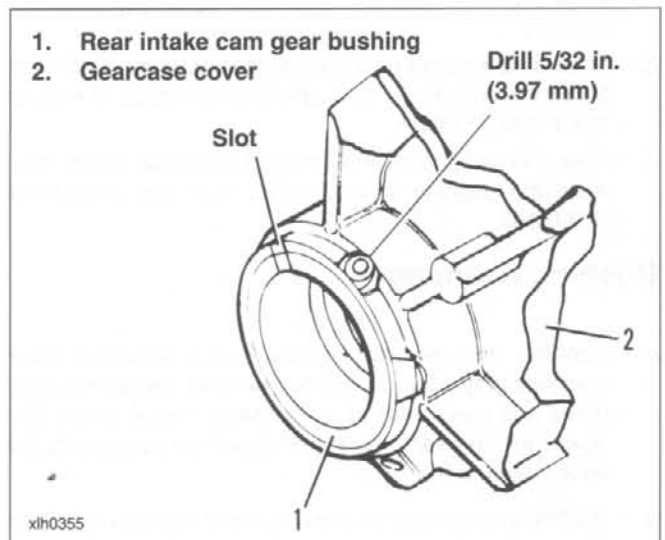

Figure 3-84. Rear Intake Cam Gear Bushing Installed in Gearcase Cover
- See Figure 3-84. Position bushing (1) over bore of gearcase cover (2) with chamfered edge downward and slot upward. Align slot in bushing with slot in gearcase cover boss. Press bushing into cover bore until bushing is flush with cover boss.